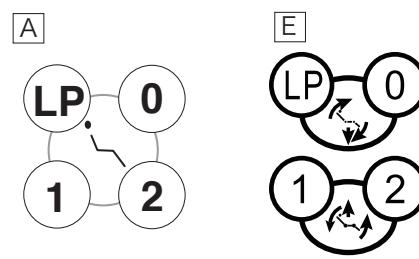

Fig.3-8 Chair Auto Mode Switches
⑥ Chair Auto Mode Switches (Fig.3-8) **A E**